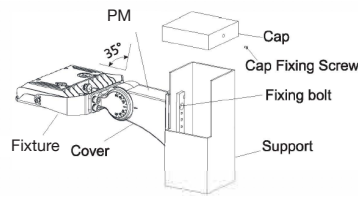

Fig. 5.1
1. Open the access cover of bracket and pass the power cable through. Connect bracket to fixture with bolts. Pass the power cable through bracket (Fig 5.1).